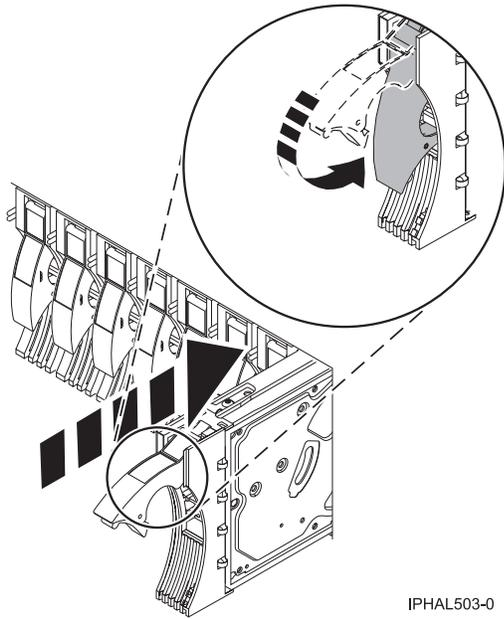

Figure 67. Installing a disk drive in a model or 7311-D20
10. Slide the disk drive all the way into the system or expansion unit and then lock it in place by pushing in the disk drive handle, as shown in Figure 67.